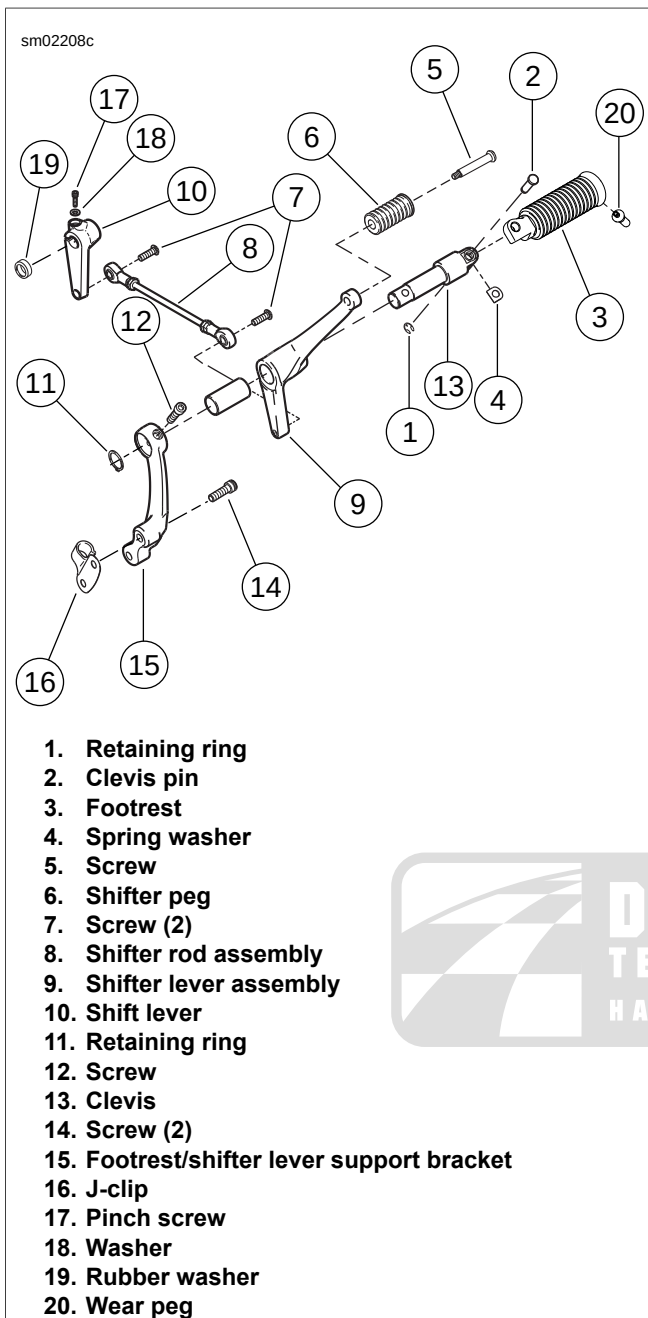

Figure 2-233. Shifter Side Forward Controls
- See Figure 2-233. Remove retaining ring (1), clevis pin (2), footrest (3) and spring washer (4). Discard retaining ring.
- Remove screw (5) and shifter peg (6).
- Remove the shifter rod screws (7) and the shifter rod (8) from shifter lever assembly (9) and shift lever (10).
- Remove retaining ring (11), screw (12) and clevis (13). Slide shifter lever assembly off clevis. Discard retaining ring.
- Remove two screws (14), footrest/shifter lever support bracket (15) and j-clip (16) from frame.
- Remove pinch screw (17), washer (18), shift lever (10) and rubber washer (19) from transmission shift shaft.
- See Figure 2-233. Install rubber washer (19) and shift lever (10) onto transmission shifter shaft, with shift lever arm pointing straight down. Secure with pinch screw (17) and washer (18). Tighten pinch screw to 16-20 ft-lbs (21.7-27.1 Nm).
- Mount j-clip (16) and footrest/shifter lever support bracket (15) to frame with two screws (14). Tighten to 45-50 ft-lbs (61-68 Nm).
- Slide shifter lever assembly (9) onto clevis (13).
- Secure with screw (12). Tighten to 13-17 ft-lbs (17.6-23.0 Nm).
- Install retaining ring (11) on end of clevis.
- Mount footrest (3) on clevis with spring washer (4):